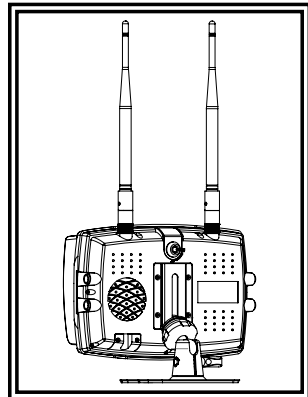

Figure 7
4. Install the monitor and sun-visor on the pedestal mount as shown in Figure 7. Adjust the monitor's position for best viewing angel before tightening the set screw on the pedestal mount. Attach the antennas so they point upward.